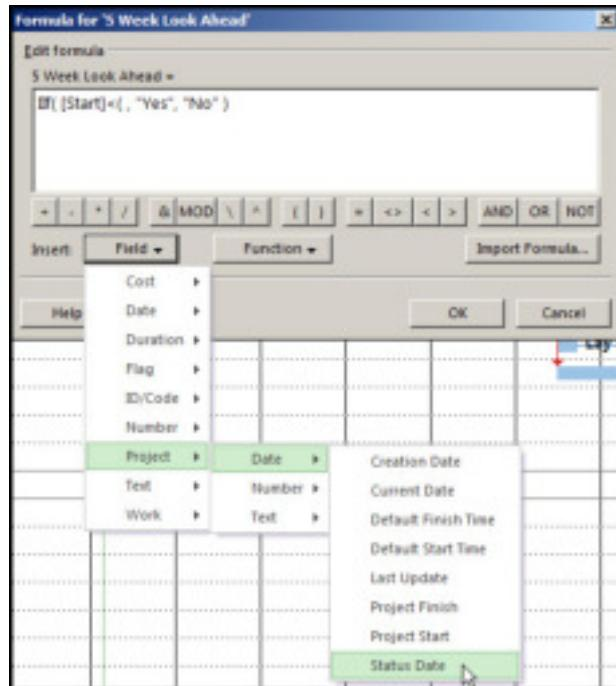

Figure 8
H. Next, we enter “Status Date” into the formula, Figure 8.